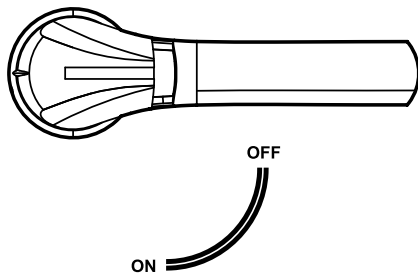

Figure3-25 Place the switch to OFF
- Step 1 Open the front door of distribution cabinet, place the input switch (POWER), output switch (OUTPUT), maintenance switch (MAINTENANCE), bypass switch (BYPASS) to OFF, as shown in Figure3-25.